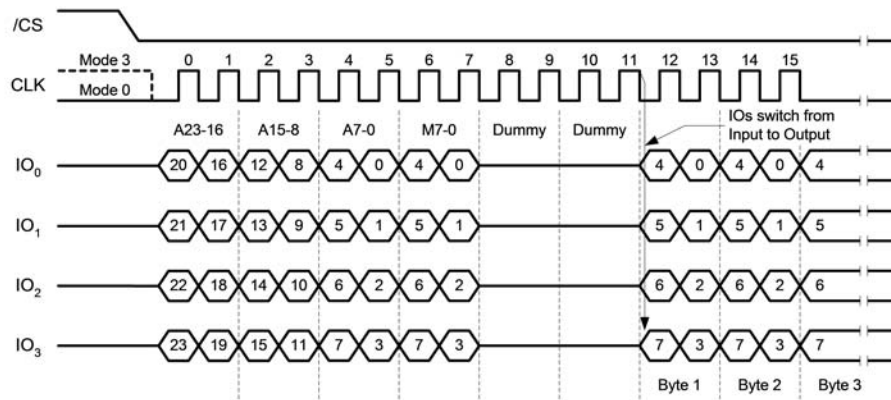

Figure 9: Fast Read Quad I/O Instruction when “Read Command Bypass Mode” is enabled
- If Modifier bits M5-4 = (1,0), then “Read Command Bypass Mode” is enabled and the next Fast Read instruction (after /CS is raised and then lowered) does not require the instruction OP-code. This reduces the instruction sequence by eight clocks and allows the Read address to be immediately entered after /CS is asserted low. This is demonstrated in Figure 9 below.